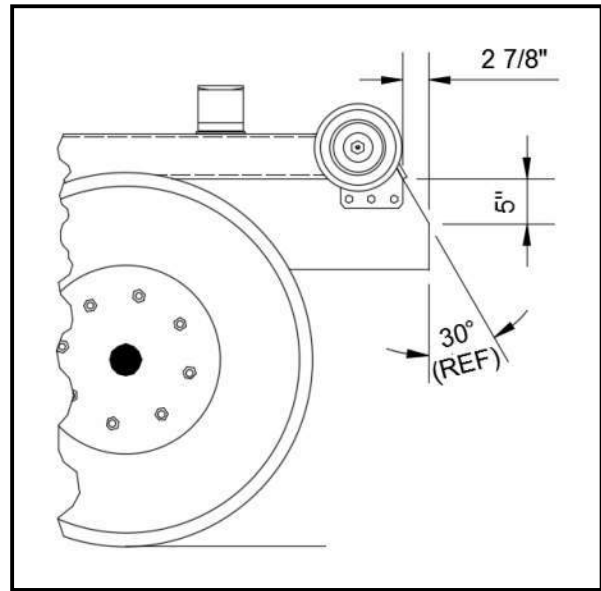

Figure 1
2. Trim truck frame to indicated dimensions (See Figure 1). This step may have already been performed if a bumper was previously installed.